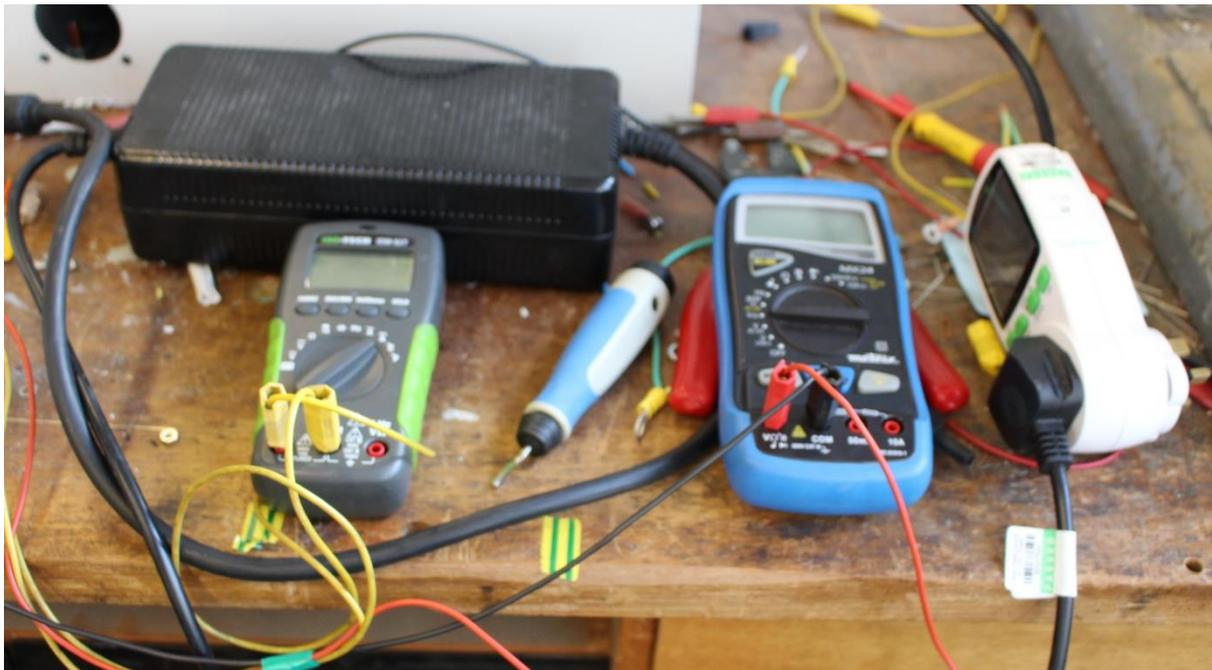

Figure 1: Equipment used to measure V,A and W
Energy consumption of four, 5W LED bulbs were measured when powered through Extreme Low Energy Ltd's DC power kit (rectifier and control unit) in comparison to single phase AC power input. Energy consumption was calculated by measuring Volts (V) and Current (A) on both AC and DC. The readings were taken for 1 hour with 15min intervals. Two handheld multi-meters were used to measure volts and amps and a plug-in watt meter was used for the DC test to measure the input from AC source (Figure 1). Same meters were used for both tests to keep the uniformity of the readings.